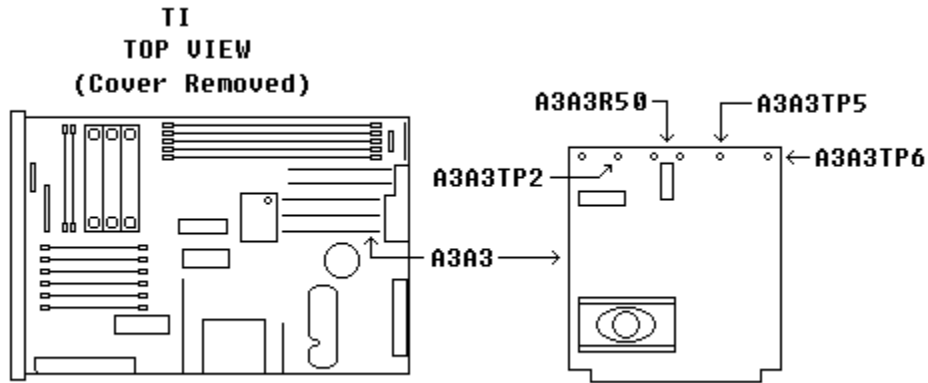

Figure 17. A3A3 card.
(2) Connect digital voltmeter to A3A3TP5 (fig. 17) and chassis. If digital voltmeter does not indicate between +19.998 V dc and +20.002 V dc, perform **b**(2) below.
- (2) Adjust A3A3R50 (fig. 17) for an indication of 20.000 V dc on digital voltmeter. No further adjustments can be made (R).